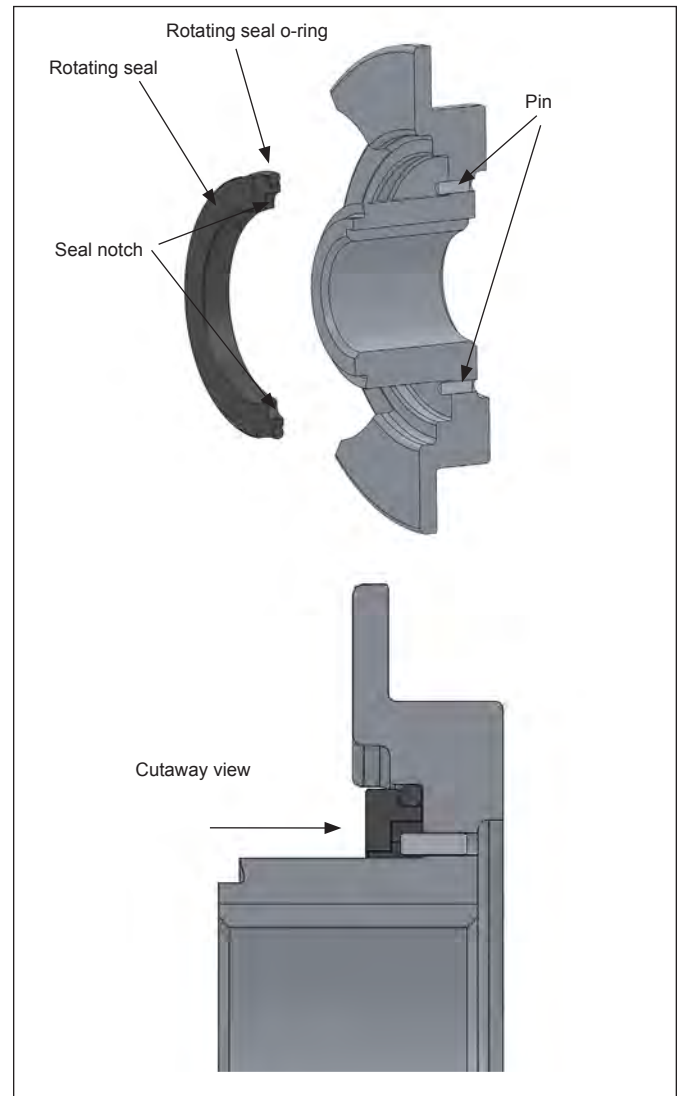

Figure 30. Inserting Rotating O-Ring
- 4. Slide the rotating seal onto the rotor hub (Figure 30) making sure to align the slots on the seal to the drive pins in the rotor. Press the seal down until it seats inside of the rotor.